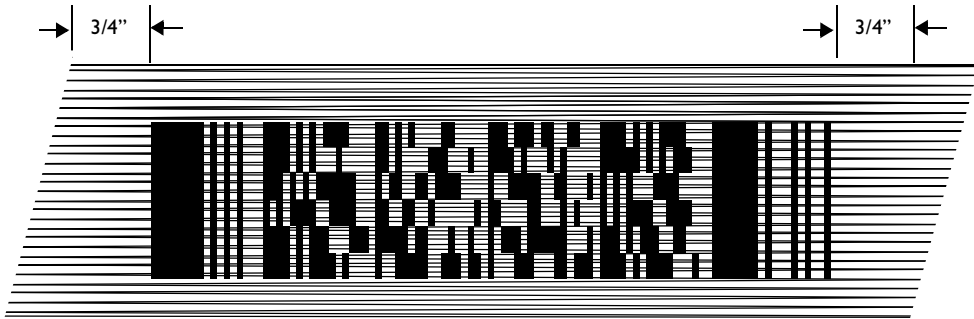

Figure 7-4. Orienting Scanning Pattern On 2-D Bar Code
- ◆ In all cases, make sure the scan pattern extends *at least 3/4 inch* beyond each edge of the bar code (Figure 7-4).